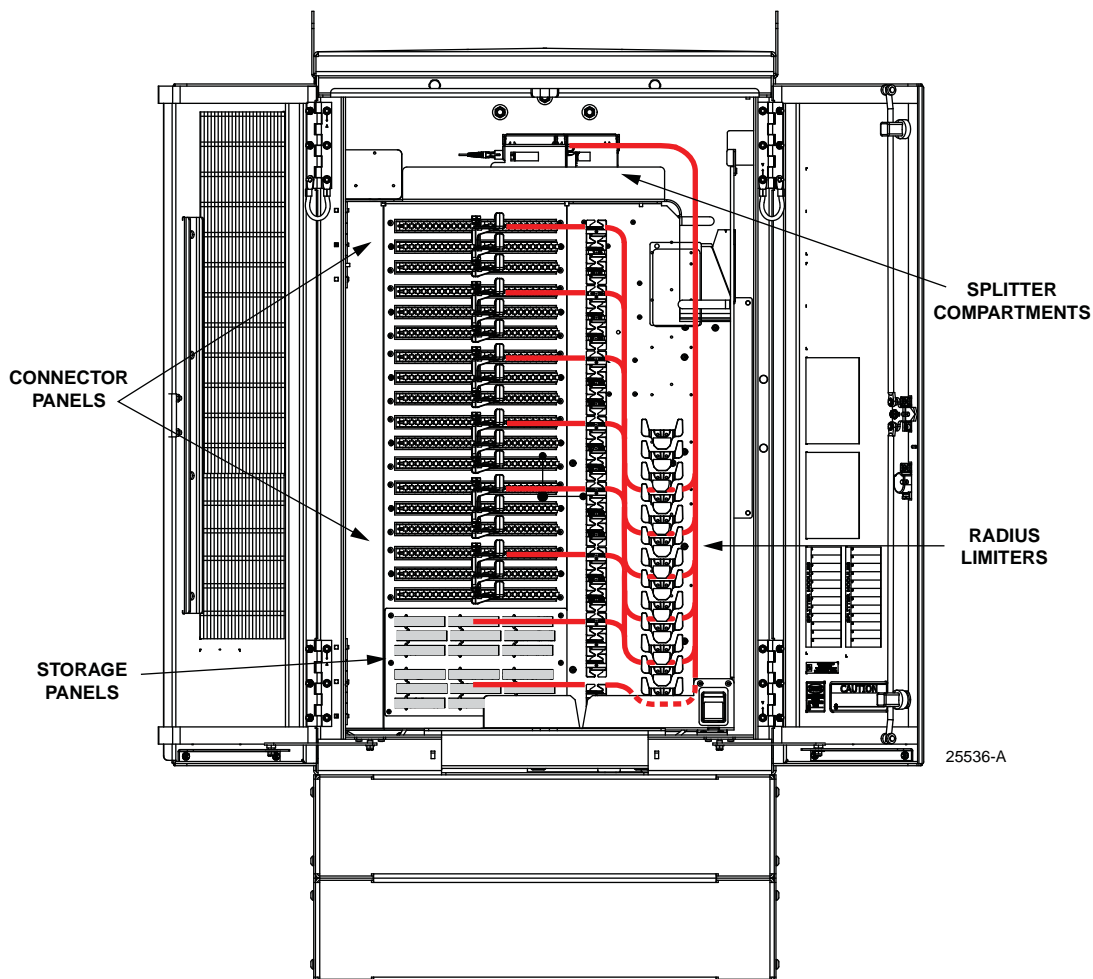

Figure 27. Routing Splitter Output Fibers
Use the following procedure to store the splitter output fibers (refer to Figure 27).
6. Use the radius limiters on the right side of the cabinet to store any excess fiber slack. Refer to Figure 27 for the routing guidelines